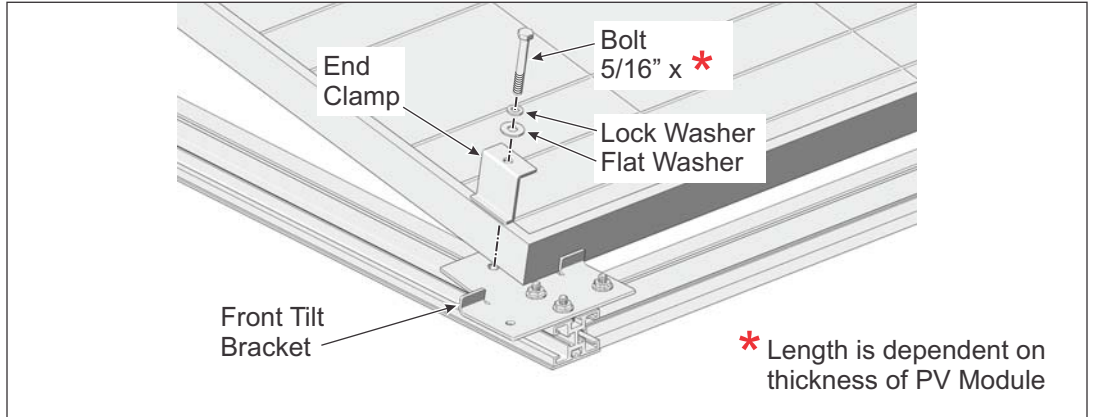

Figure 8-6: Installing an End Clamp on a Front Tilt Bracket
- J. Insert one 5/16 x XX inch bolt (length is dependent on thickness of PV Module) along with flat and lock washers through the End Clamp and thread into the Tilt Bracket. For now, finger-tighten the bolt as this is only a test run. (See Figures 8-6 and 8-7)